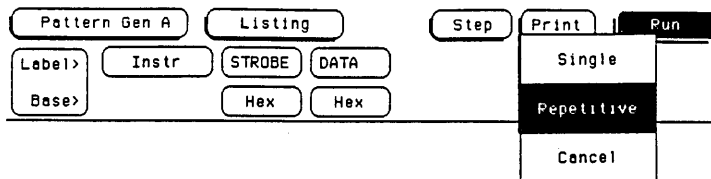

Figure 3-13. Run Repetitive Mode
- j. Touch **Run**, then drag finger to **Repetitive** as shown in figure 3-13.